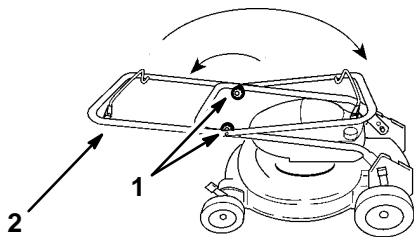

Figure 1
1. Loosen the handle knobs and lift the top handle half in an arc until the handle halves are in line and nest together (Fig. 1).
3. Rotate the handle toward rear of the mower until it snaps into the handle brackets (Fig. 1).